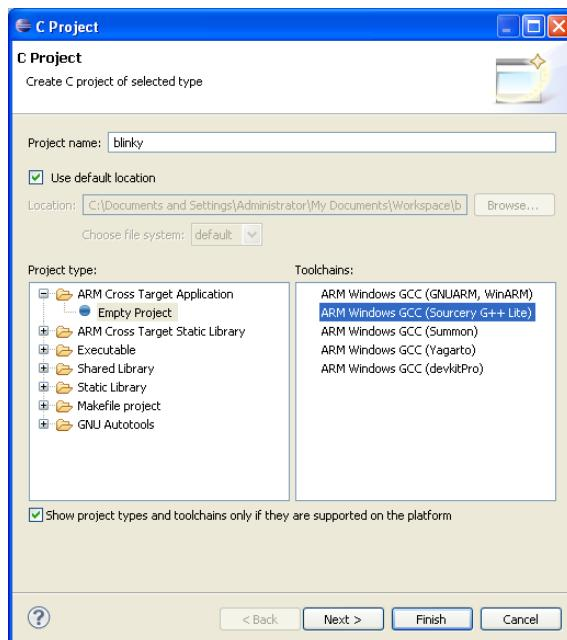

Figure 11.5 New Project Window
- Enter the project name. Make sure the selections are as shown in Figure 11.5.